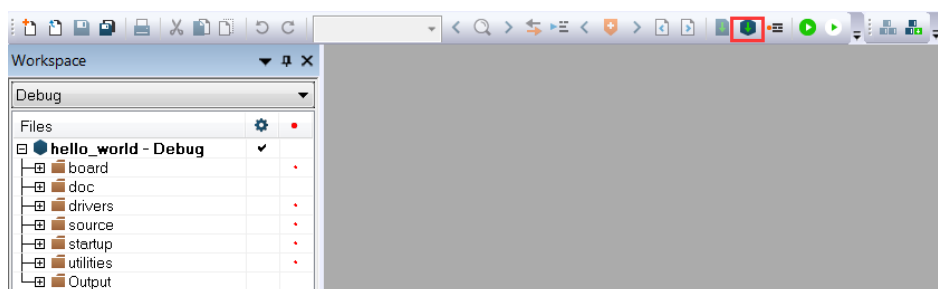

Figure 13. Build the demo application
3. To build the demo application, click **Make**, highlighted in red in Figure 13.